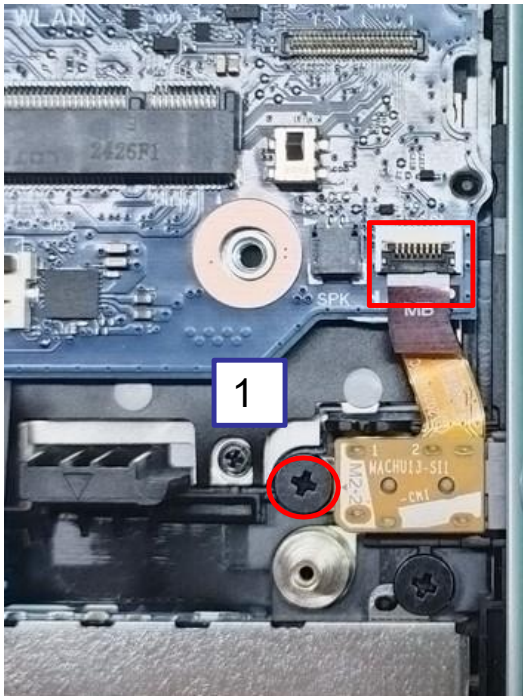

Figure 1
1. Take screw M2.0*2 (6052B0388301) *1, remove audio FPC, remove middle hook (6051B1730601) (Figures 1 and 2).